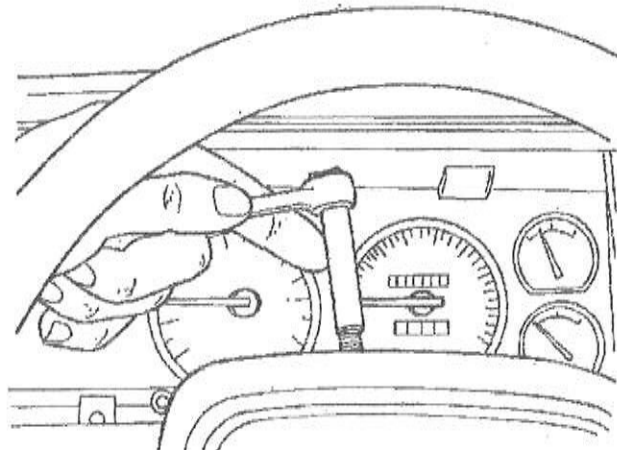

Figure 11
- Reach through the driver's side window and turn the airbag arming screw counter-clockwise until it reaches its travel limit (Figure 11).
50. Arm the driver's airbag by reaching through the driver's window and turning the airbag arming screw clockwise to its travel limit (Figure 11). Torque the arming screw to a maximum of 10 in-lbs (1.1 N•m).